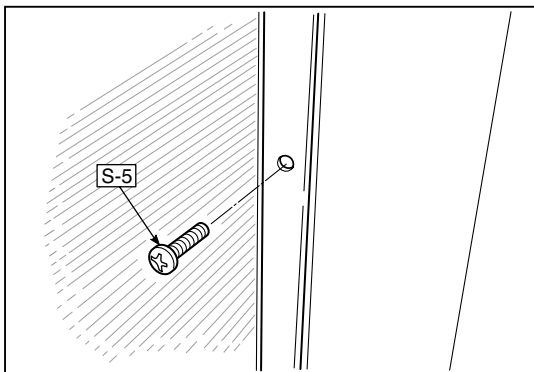

Fig.12
- 1.Remove the “S-5” screws shown in the figure12.